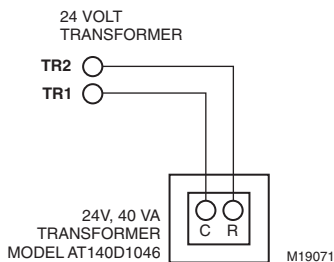

Fig. 11. Transformer wiring.
6. Connect a 40 VA, 24 volt transformer to TR1 (hot) and TR2 (common). This must be a dedicated transformer and any additional TAZ boards also each require a transformer. See Fig. 11.
Wire the transformer to the panel as shown in Fig. 11.